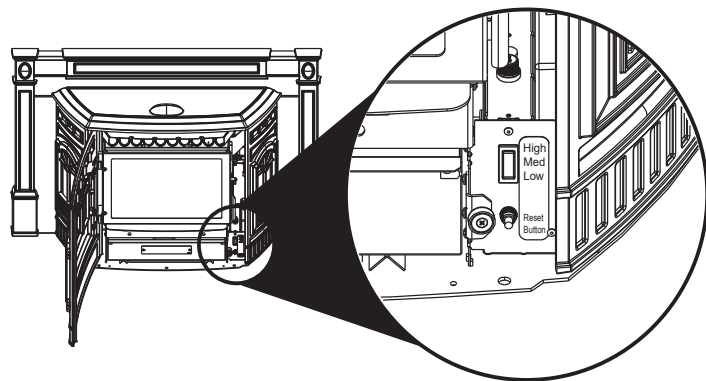

Figure 10.1
This appliance is equipped with a heat output control switch that has three settings or burn rates; low, medium and high (**Figure 10.1**). The appliance will turn on and off as the thermostat demands. When the thermostat calls for heat, the appliance will always start up on High. After burning approximately 4 minutes, the appliance will then burn at the rate at which it was originally set. If the appliance is set at one of the lower settings, it will run quieter but takes longer to heat up an area than if it were set at a higher burn rate. Regardless of the burn rate, when the area is warm enough to satisfy the thermostat, the appliance will shut off.
3. Locate the heat output control switch on the lower right side of the firebox behind decorative front door. Set to the HIGH setting and then adjust the thermostat to its highest setting. The red call light will be on which is located on the top of the junction box behind the right access panel. This indicates the thermostat is calling for heat (**Figure 10.1 on page 10**).
3. Occasionally the appliance may run out of fuel and shut itself down. When this happens, the red call light will be on (**Figure 10.1 on page 10**). To restart it, fill the hopper and press the reset button. When you press the reset button the red call light will go out. Release the button and the light will come back on. You should see a fire shortly. If not, follow the instructions on **page 10**, "Starting Your First Fire".